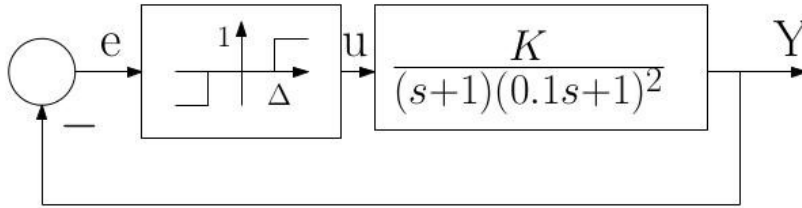

fig.4
6. Investigate the stability of a relay controlled system shown in figure 4.